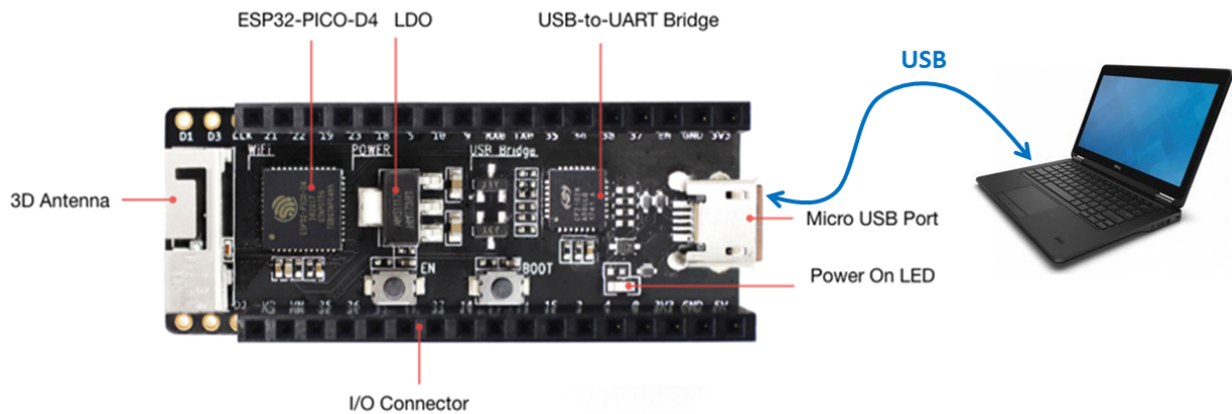

FIGURE 1.2 – *ESP32-PICO-KIT board connections.*
- Connect the ESP32 card to the computer via USB (cf. figure 1.2)